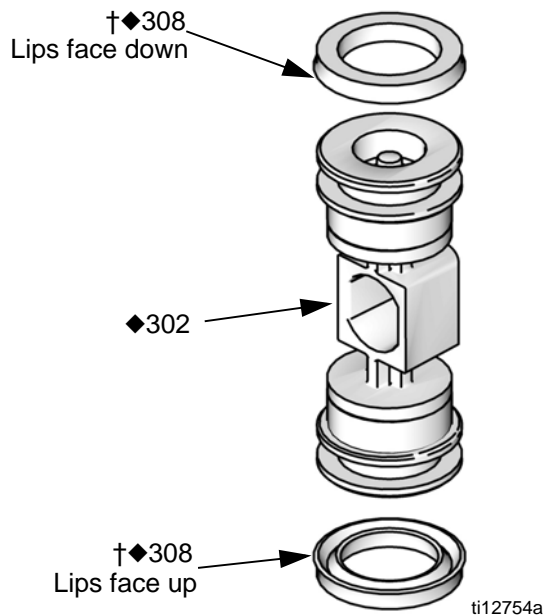

FIG. 14. Air Valve U-cup Installation
2. See FIG. 14. Lubricate the u-cups (308†♦) and install on the piston (302♦) with lips facing toward the center of the piston.